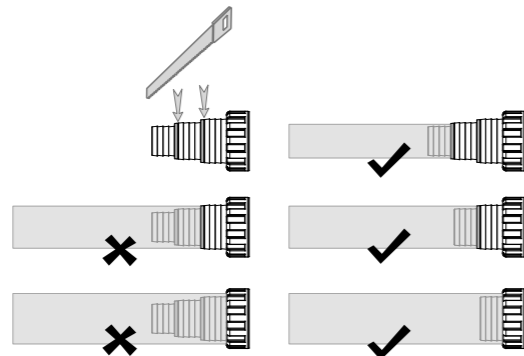

Figure 9
- 4) Properly install a pump and connect its outlet to the filter hose tail with a proper hose. The hose diameters supported are $\Phi 25\text{mm}$, $\Phi 32\text{mm}$ or $\Phi 38\text{mm}$ (1", 1.25" or 1.5"). Make sure the invalid portion of the hose tail is removed to enlarge the minimum diameter of the hose tail (Referring to **Figure 9**), the hose should be installed with no sharp bends and in a way to shorten its length as much as possible. If possible, place the pump at the opposite side of the pond to optimize the efficiency.